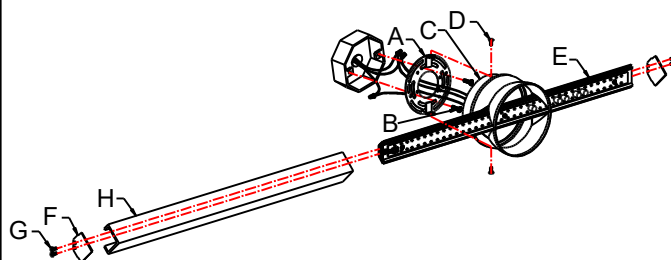

Fig. 2
CONNECTING THE WIRES (Fig.2)
4. Connect the electrical wires as shown in Fig. 2, making sure that all wire connectors are secured. If your outlet has a ground wire (green or bare copper), connect the fixtures ground wire to it. Otherwise, connect the fixture ground wire directly to the mounting plate (A) using the green screw provided. After wires are connected, tuck them carefully inside the outlet box.
5. Place the fixture's back plate (C) over the mounting plate (A) and secure with screws (D).